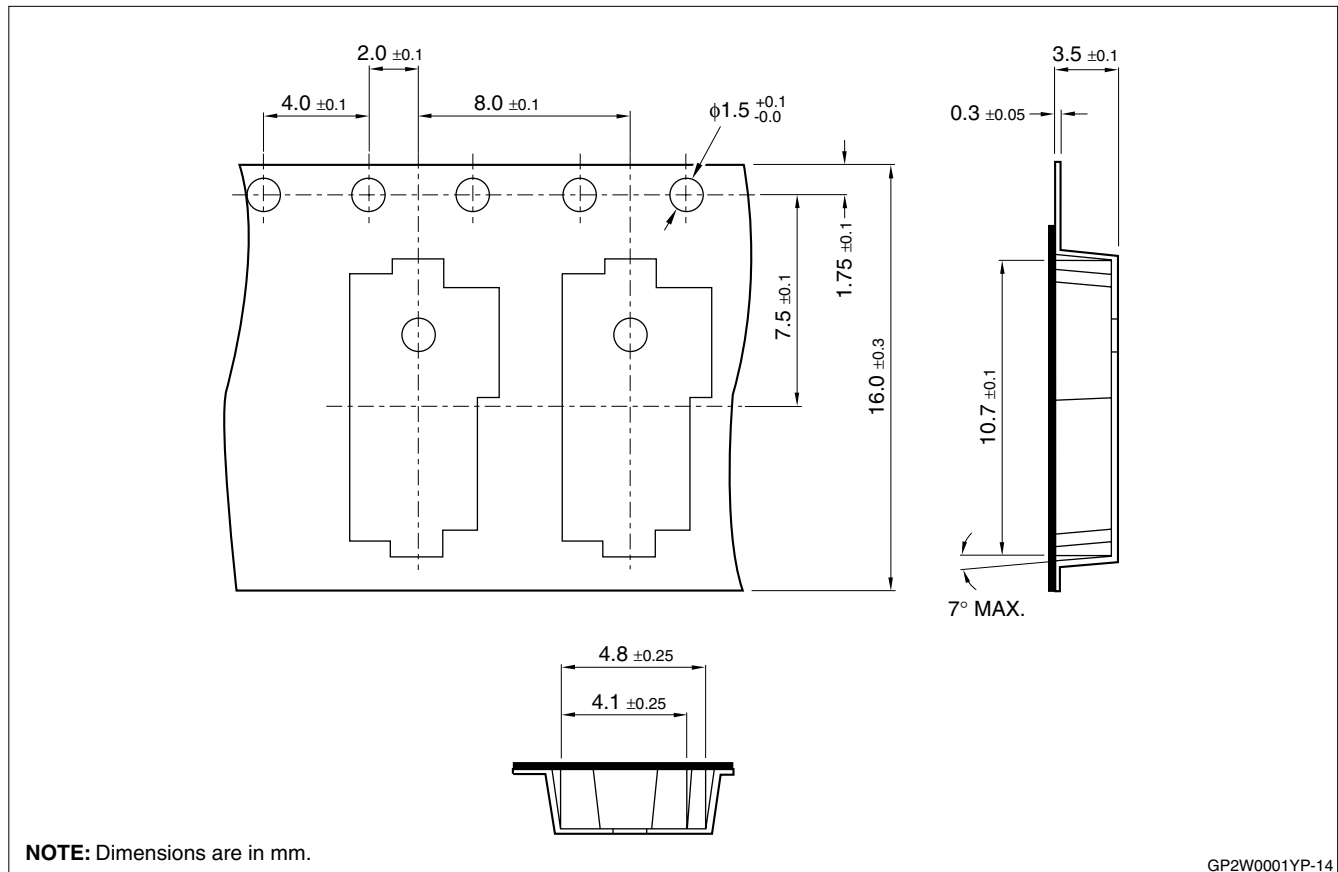

Figure 14. Tape Structure and Dimensions
- Taping structure and dimensions: The tape should have a structure in which a cover tape is sealed by using heat-pressed on the carrier tape of conductive PET. See Figure 14.